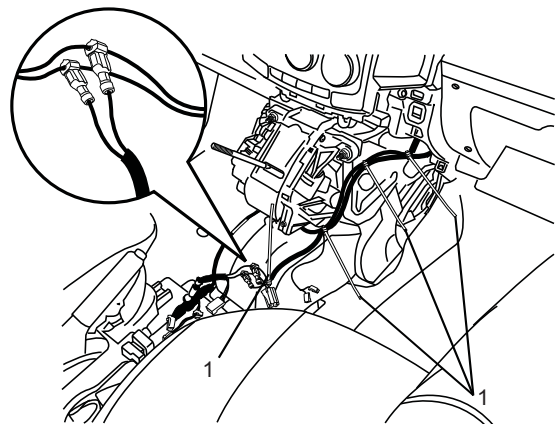
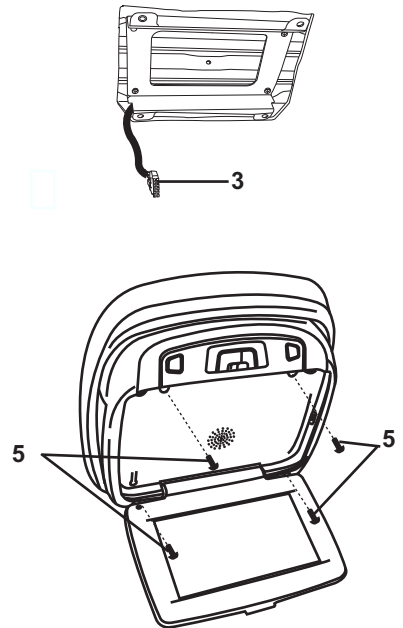

FIGURE 72
FIGURE 77
- 2.) CONNECT THE POWER HARNESS RED WIRE TO THE 3M CRIMP LOCK ON THE VEHICLE BLUE/BLACK WIRE. ATTACH THE BLACK WIRE TO THE 3M CRIMP LOCK ON THE VEHICLE BLACK WIRE. (SEE FIGURE 72)
- 3.) SECURE THE POWER HARNESS TO THE VEHICLE AUDIO HARNESS USING FOUR TIE WRAPS (1). (SEE FIGURE 72)
- 1.) USE TWO STRIPS OF FOAM TAPE (1) TO HOLD THE ANTENNA WIRE (2) IN PLACE. (SEE FIGURE 77)
- 2.) CONNECT THE DVD MAIN HARNESS CONNECTOR (3) (SEE FIGURE 72) TO THE DVD ASSEMBLY CONNECTOR (4). (SEE FIGURE 77)
- 3.) MOUNT THE DVD ASSEMBLY TO THE BRACKET USING A PHILLIPS SCREWDRIVER AND THE FOUR DVD ASSEMBLY MOUNTING SCREWS (5). (SEE FIGURE 77)